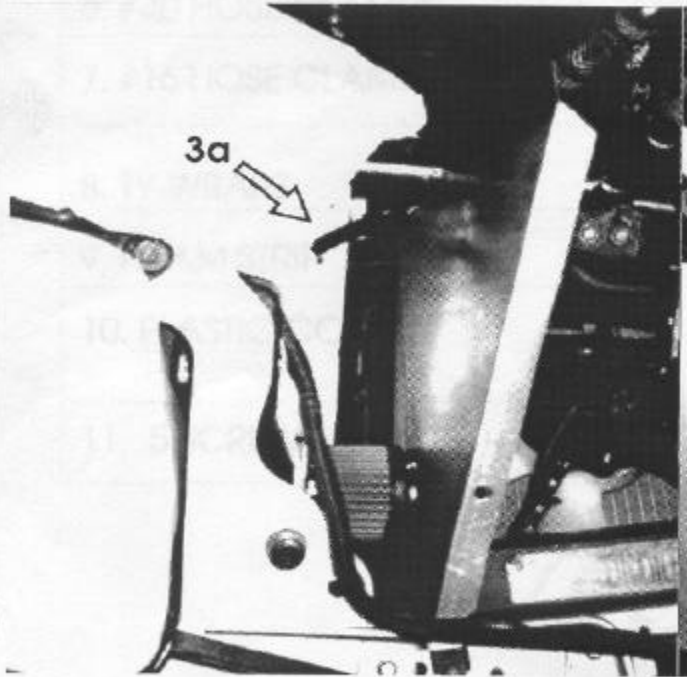

Figure 3 & 3a
8. Set the EAM manifold in place and connect the hoses, do not bolt down, then install the heat shield, the center tab on the shields base locks into the center slot on the fan shroud and rests in the groove, a slight flexing may be necessary to achieve this fit. (WARNING! on some vehicles wires may protrude from the factory wiring harness by the forward edge of the heat shield carefully inspect this area, any exposed wires should be pushed back into their enclosure and properly protected.) With the shield in place install the small filter and clamp on the EAM manifold the clamp is easily tightened through the small hole in the edge of the shield, (Figure 3). Next using a left over bolt from the front bracket secure the EAM manifold (it may be necessary to slightly bend the bracket for perfect alignment) next, place two ty-wraps around the EAM manifold and the radiator hose DO NOT OVER TIGHTEN AND KINK HOSE.